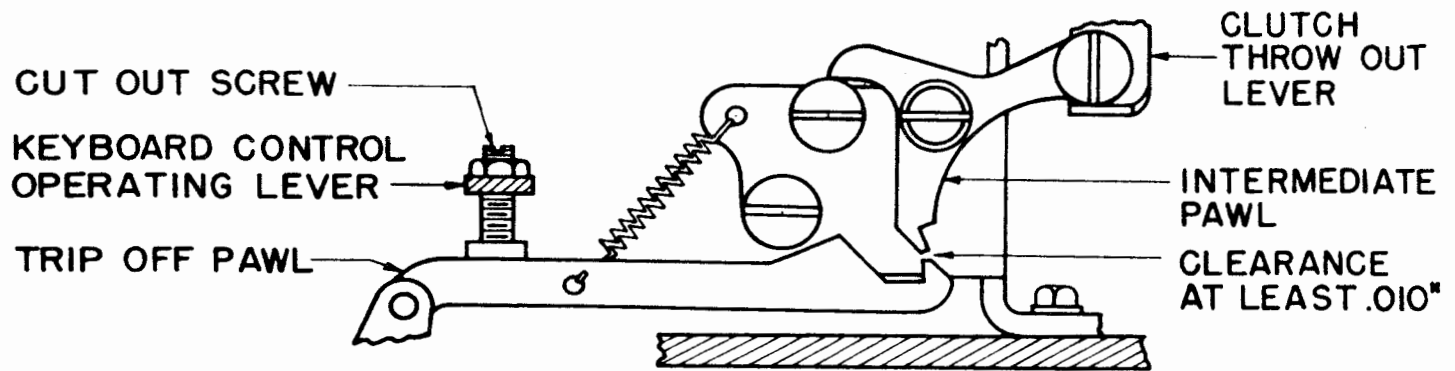

Figure 24
2.32 Tripoff Pawl on units equipped with trip-off-pawl cutout screw should clear the intermediate pawl by at least 0.010 inch when the keyboard-control operating lever is in the lower TAPE position, the clutch-throwout lever is on the low part of its cam and any keylever is depressed slowly. See Figure 24.